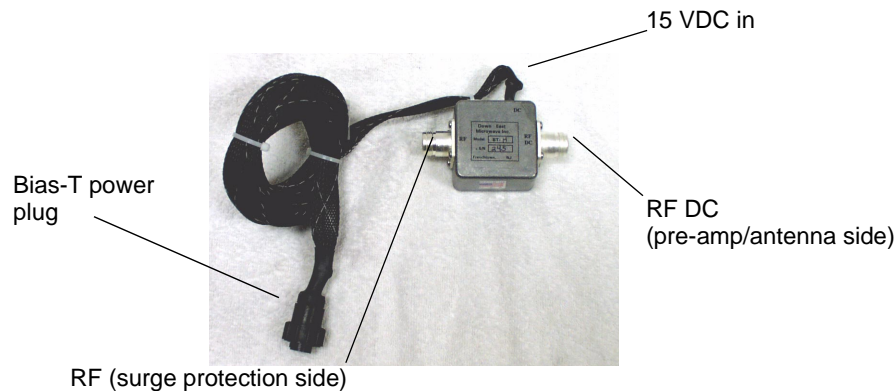

Figure 20. Bias-T
- 1 Attach the bias-T to the LMR-400 coax cable that you pulled into the cabinet from the antenna and pre-amp. Orient the bias-T so that the RF-DC side goes to the antenna and the RF side goes to the surge protector and receiver unit. See Figure 20.